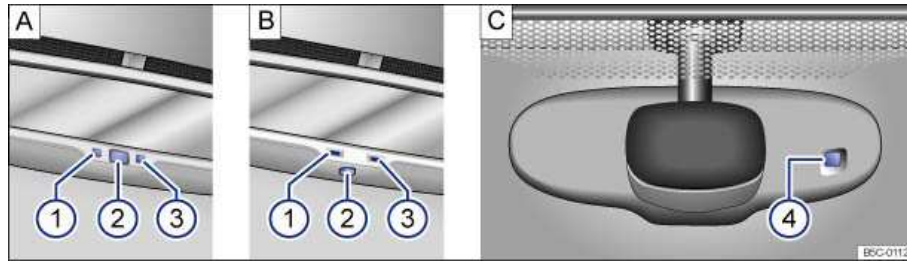

Fig. 83 Self-dimming rearview mirror (if equipped).
Key to ⇒ fig. 83:
- One sensor on the side facing the interior to measure light from *the rear* of the vehicle ⇒ fig. 83 **A** (3) or ⇒ fig. 83 **B** (3).
- One sensor on the side facing the windshield to measure light from *the front* of the vehicle ⇒ fig. 83 **C** (4).